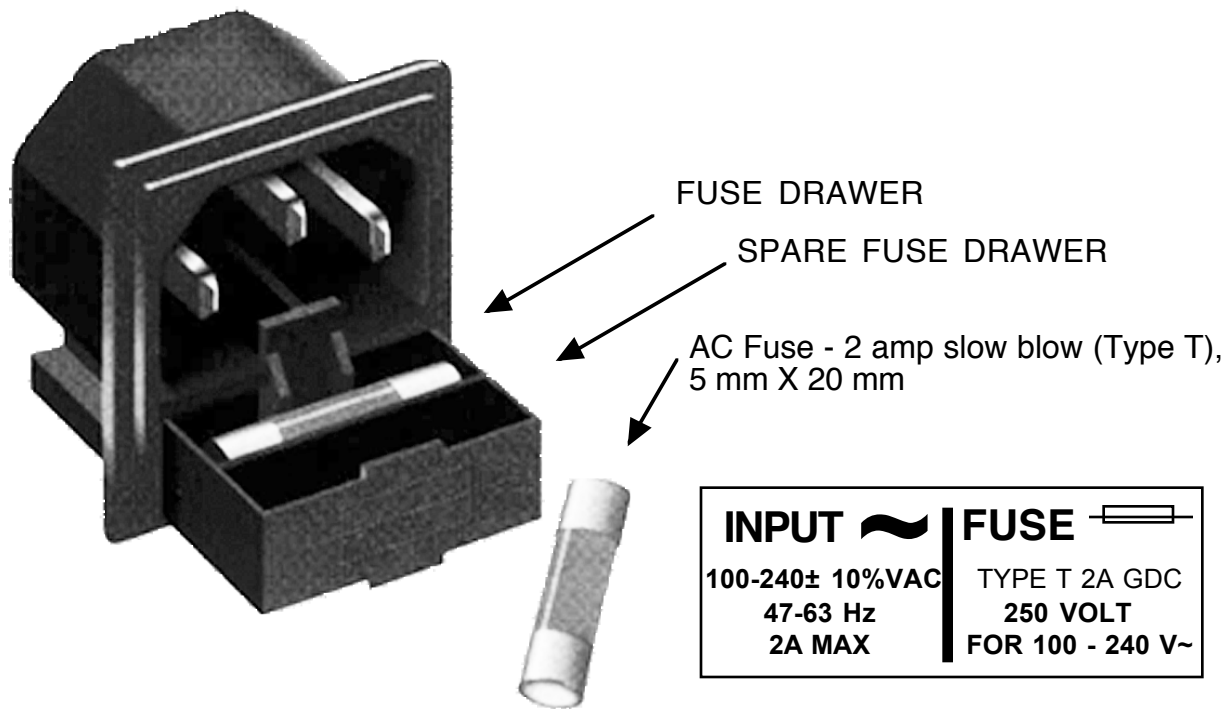

FIGURE 2.6 Fuse and Spare Fuse Locations
4. AC Fuse - The fuse is a 5mm, 2 amp fast blo and is inserted in the far slot in the drawer below the AC input as shown in Figure 2.6. There is a spare fuse in the near slot. If a fuse continues to open, the power supply is most likely defective. Note that the power supply module within the chassis also has a fuse but failure of this fuse indicates the power supply may be defective.